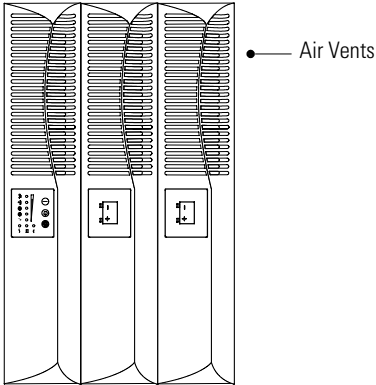

Figure 9. Tower UPS with EBMs
- 6. Carefully position the cabinets upright with the air vents at the top (see Figure 9).